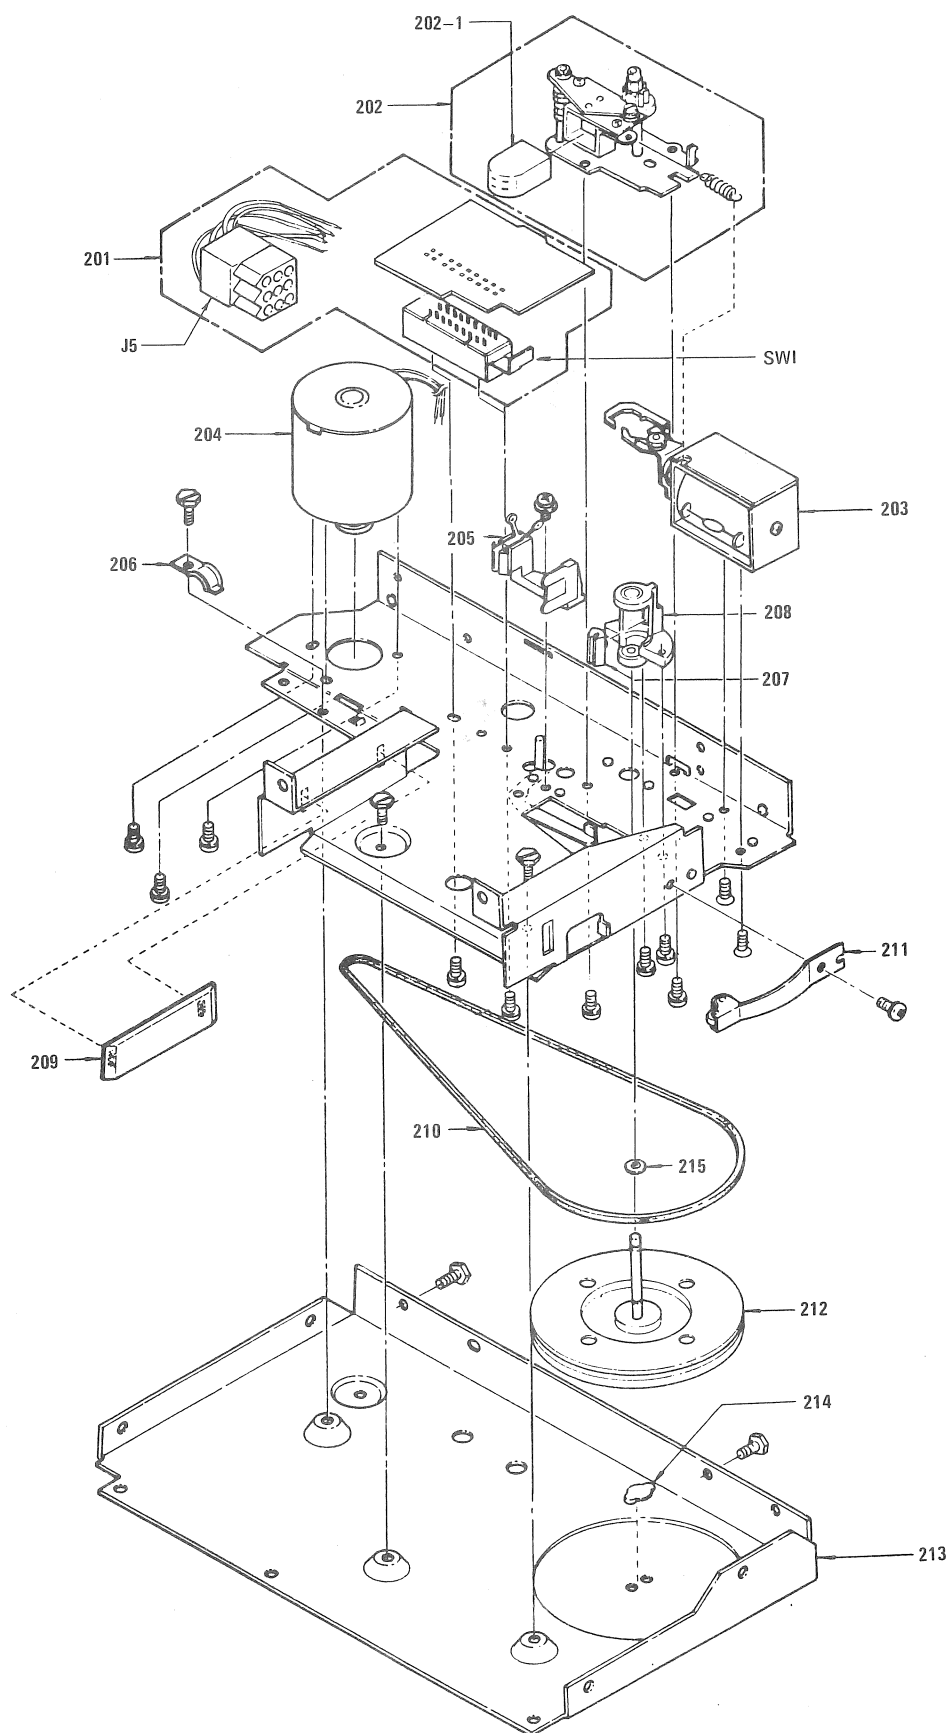

FIGURE 58. TAPE MECHANISM ASSEMBLY EXPLODED VIEW
7. Tape Mechanism Assembly - Refer to Figure 58, Tape Mechanism Assembly Exploded View for disassembly of the tape mechanism.